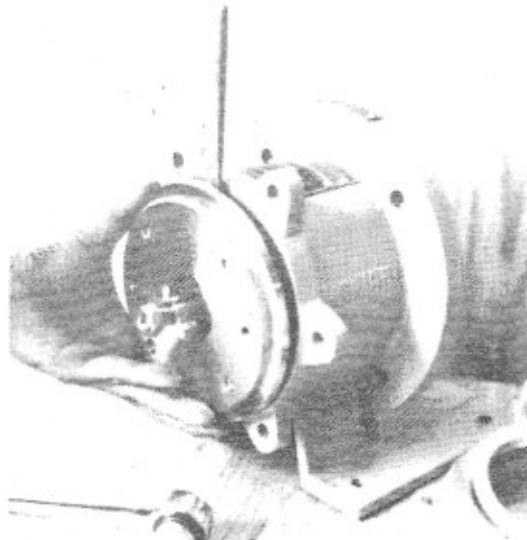

Figure 17
- E. Pull out the rear casing (Part No. 4) [Fig. 17]. During this procedure remember that strong magnetic forces are working to keep the inner and outer magnets together. A fair amount of force will be required to disconnect pump. **CAUTION - BE CAREFUL TO AVOID TRAPPING YOUR FINGERS BETWEEN THE REAR CASING AND THE FRAME ADAPTOR.**